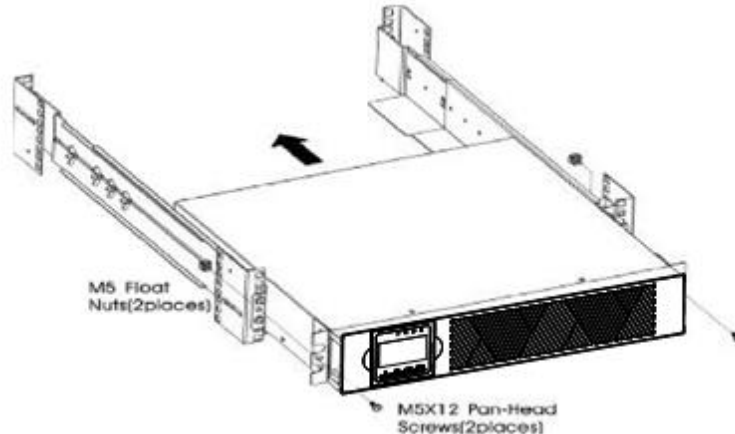

Figure4 - Securing the Front of the Cabinet
- l) Secure the front of the UPS to the rack using one M5×12 pan-head screws and one M5 cage nuts on each side(see Figure 4).Install the bottom screw on each side through the bottom hole of mounting bracket and the bottom hole of the rail.